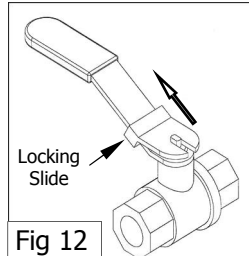

Fig 12
- a. Lift locking slide on valve handle (Fig 12) to release valve.
- c. When valve is closed, locking slide will drop down over locking valve to prevent accidental opening of valve as shown in Fig.12.